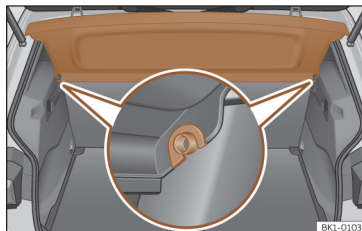

Fig. 135 In the luggage compartment: removing and fitting the shelf.
- Remove the rear shelf from the side supports >>> **Fig. 135** by pulling it upwards and then take it out.
- Insert the cover horizontally so that the "recess" fits onto the axis of the supports >>> **Fig. 135** and press down until it engages.